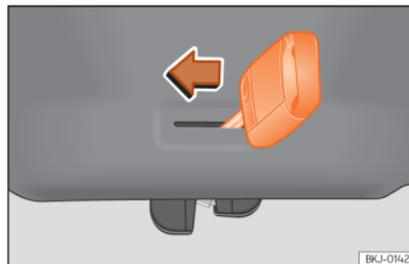

Fig. 100 Detail of the luggage compartment: emergency unlocking
- Insert the key blade into the slot and move the key in the direction of the arrow until the lock unlocks »» **Fig. 100**.